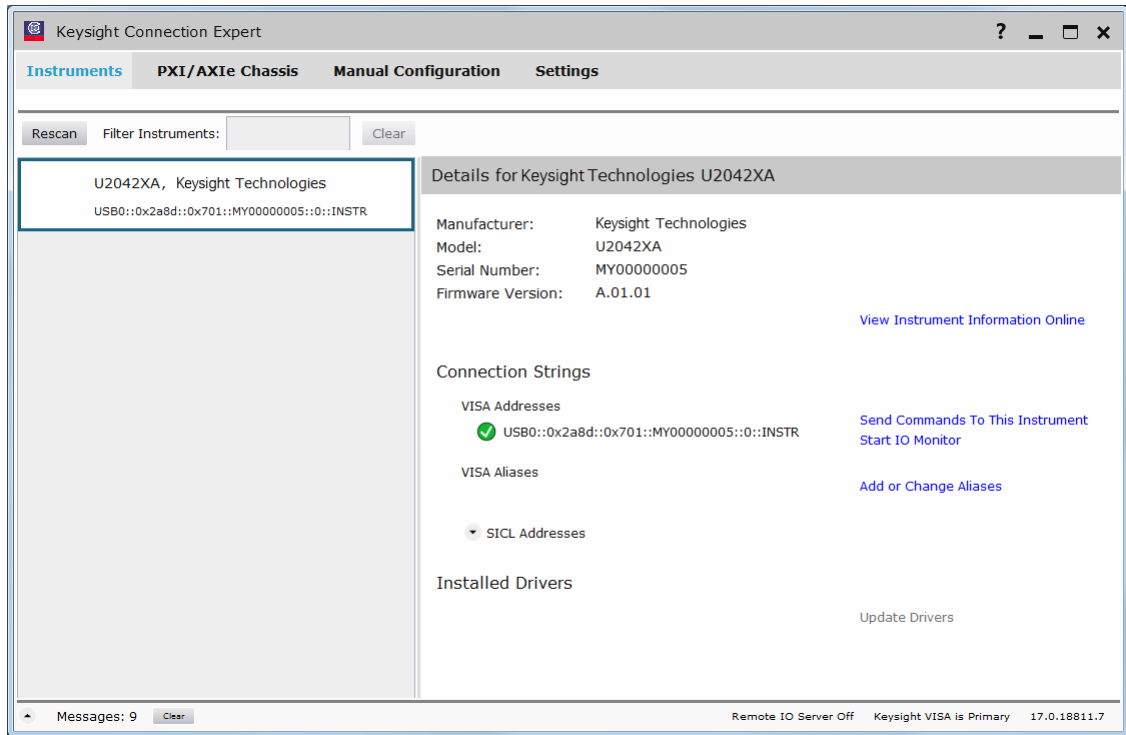

Figure 1-4 Auto-locate a USB instrument in Keysight Connection Expert
- 2 Launch the Keysight Connection Expert by selecting the IO icon (). Auto-locate the sensor as shown in **Figure 1-4**. Click **Rescan** to start searching.